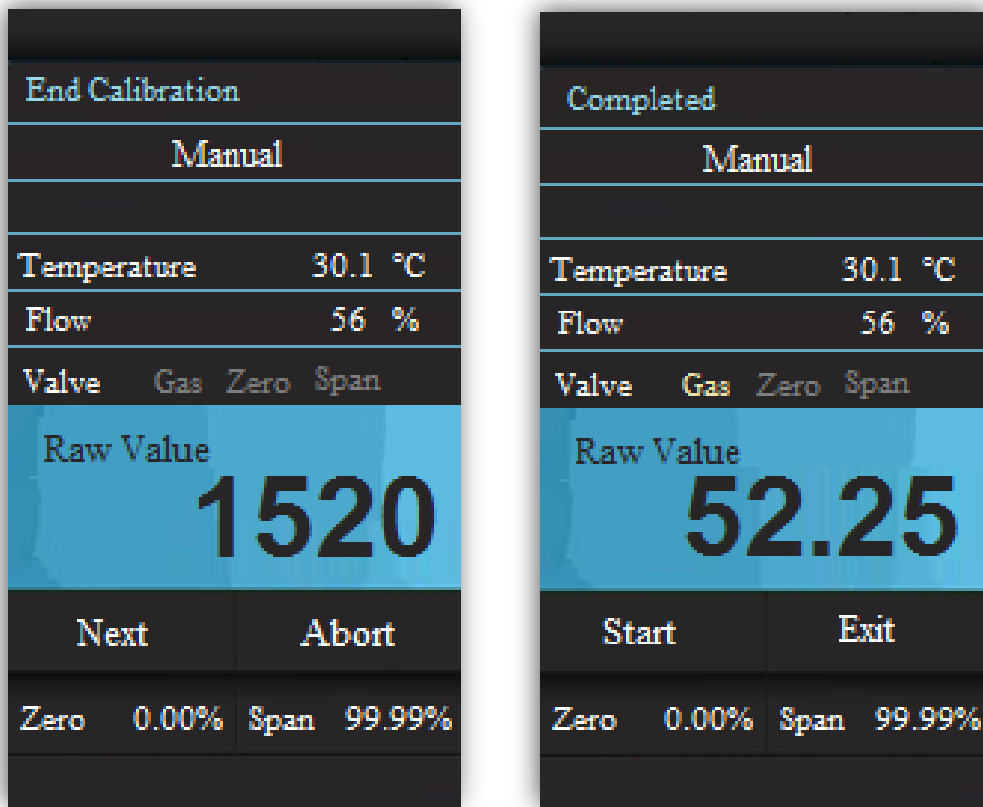

Figure 40 : End Calibration and Completed Pages for Manual Calibration
- g. *End Calibration page* shows the actual raw value of sample gas (Figure 40 on the left). If reading value is acceptable, press *Next* button, to confirm calibration and to save relevant data.
- h. Manual Calibration Procedure is successfully completed. Press *Exit* button (Figure 40 on the right).